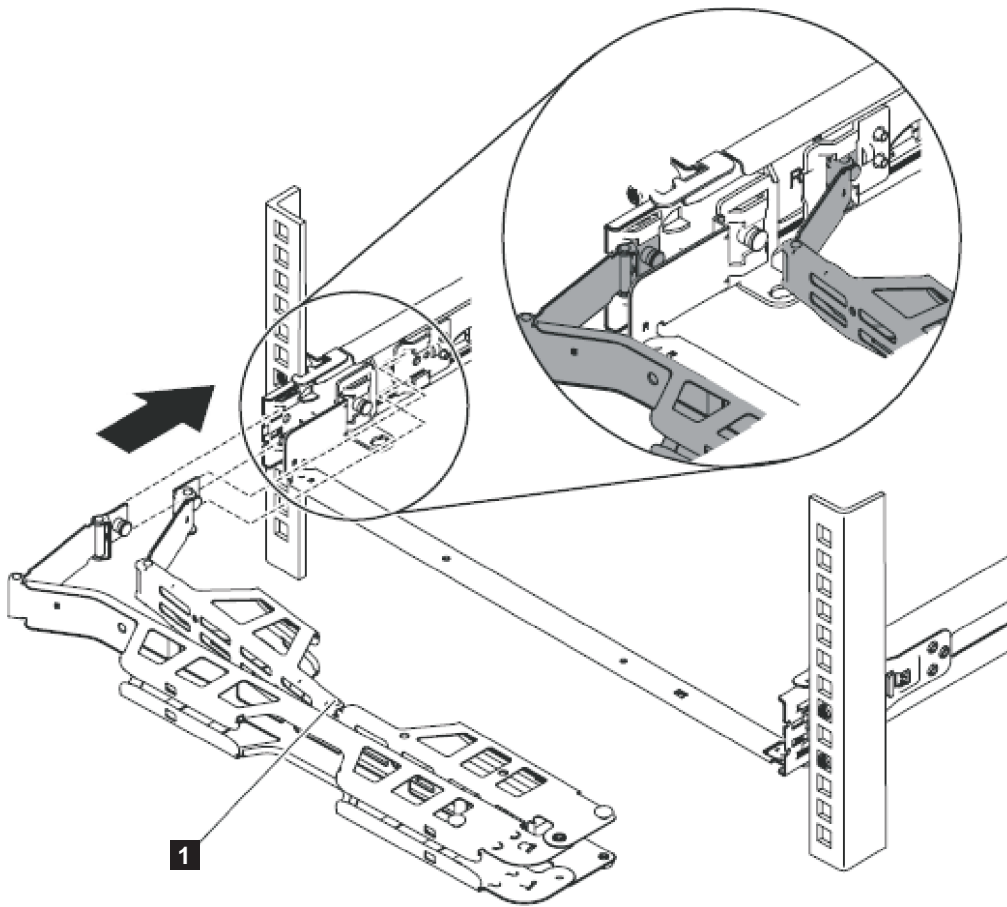

Figure 15. Installing the cable-management arm
2. Install the cable management arm, as shown in Figure 15 on page 32.
Note: Make sure that the junctions on the arm, as shown by **1** in Figure 15, are facing the node. Place the cable management arm on the support arm. Pull out both cable-management-arm pins and then slide the cable-management-arm tabs into the slots on both the inside and the outside of the slide rail. Push the tabs until they snap into place.